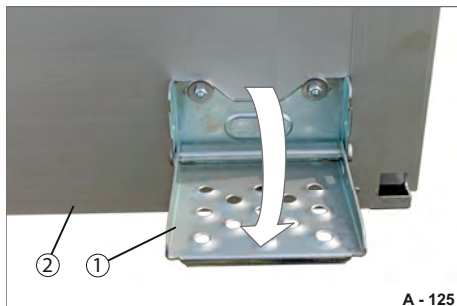

Fig. 181 Folding step, opened
- Unlock and fold down the rear platform gate (Fig. 181/2) - see page 170.
- Pull the step (Fig. 181/1) upwards and fold it down.